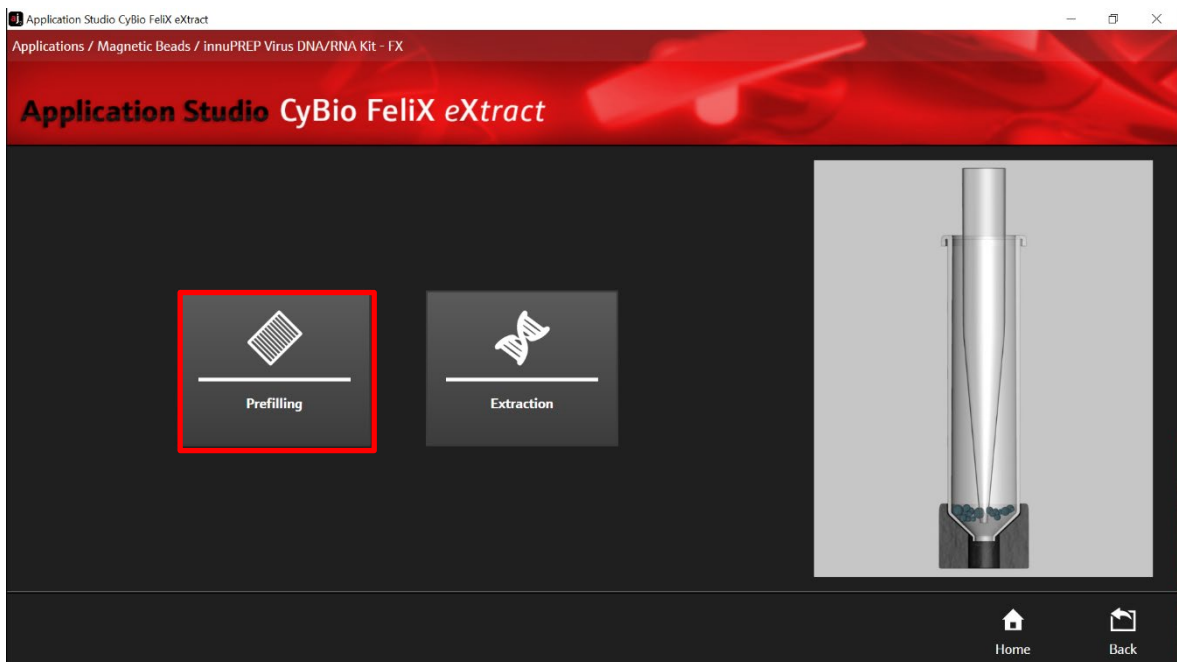

Figure 6: Routine selection: Prefilling.
16. Choose "Prefilling" (→ see Figure 6).